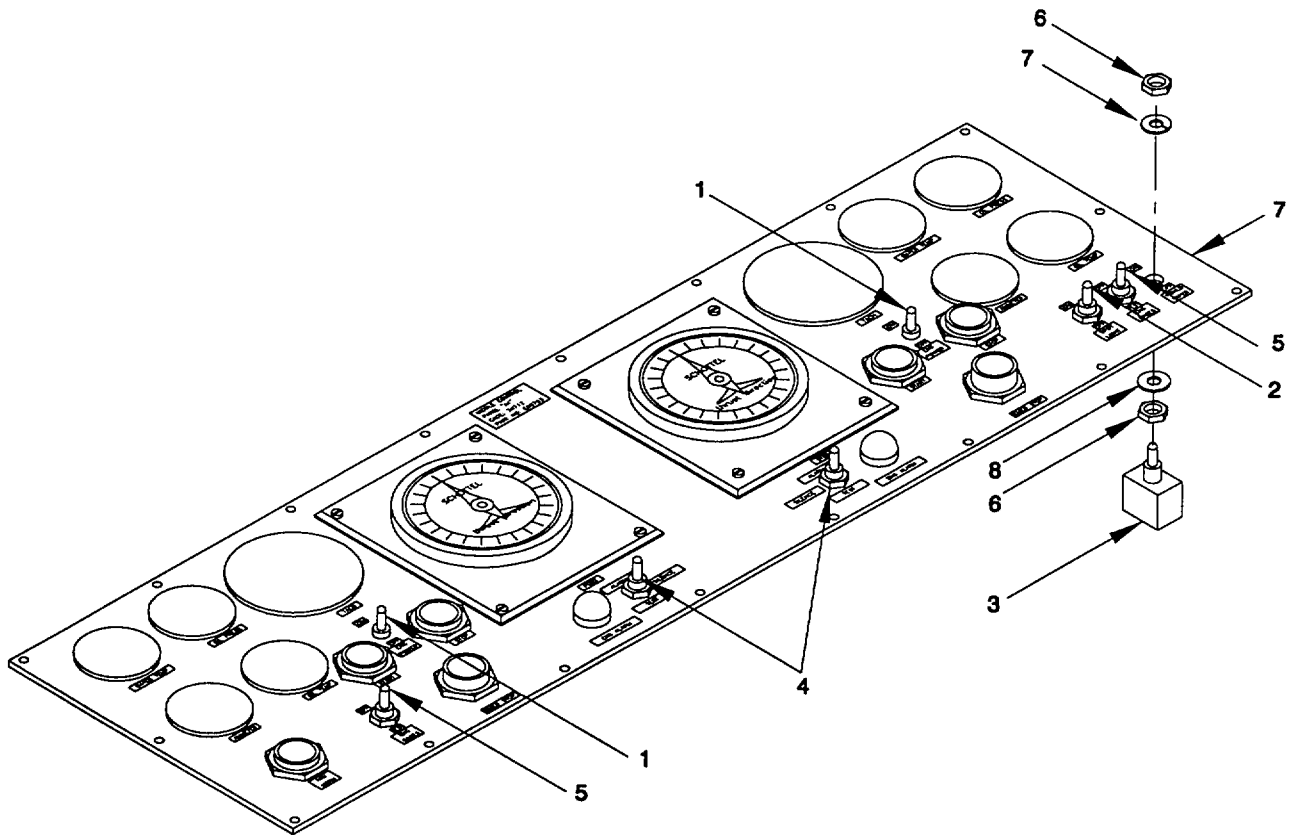

Figure 2-118. Toggle Switch, Middle Control Panel "A1", Remove/Install.
a. Remove. (figure 2-118)
- (1) For removal of the toggle switches, diesel engine power S1 and S6 (1), spotlight S11 (2), windshield wiper S12 (3), engine alarm silence S5 (4), and engine gauges/test S13 and S15 (5). tag and disconnect the electrical wiring from the switch. Refer to Appendix G.
- (2) Remove two hex nuts (6), lockwasher (7), locking ring (8) (items 6, 7, and 8 supplied with each switch) securing switch to panel (9). Remove toggle switch (1, 2, 3 4, and/or 5).
b. Install. (figure 2-118)
- (1) To replace the toggle switches for diesel engine power S1 and S6 (1), spotlight S11 (2), windshield wiper S12 (3), engine alarm silence S5 (4), and engine gauges/test S13 and S 5, position switch from underside of panel (9) and secure with hex nuts (6), lockwasher (7). locking ring (8) (items 6, 7, and 8 supplied with each switch).
- (2) Reconnect electrical wiring as previously tagged. Refer to Appendix G. Use tie wraps and mounting bases to secure any loose wiring.